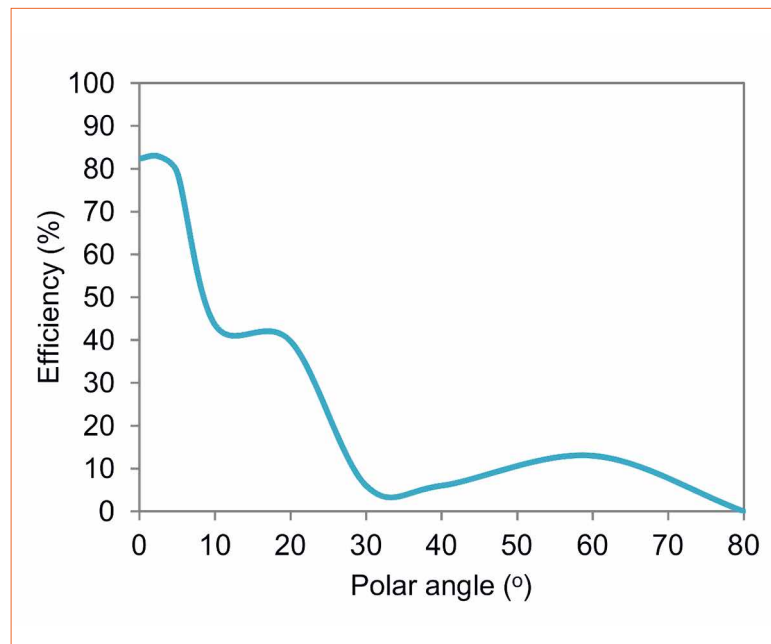

Figure 3: In-coupling efficiency plotted as a function of the polar incident angle for 0° azimuthal incident angle
- High in-coupling efficiency values of 50% have been theoretically predicted for optimized in-couplers in combination with lambertian blue LEDs. Higher values are expected when additional diffractive in-couplers are added on the top surface of the waveguide. Moreover, in-coupling efficiency values in excess of 80% are expected for polar incident angles between -10 and 10° with respect to the normal (Figure 3)